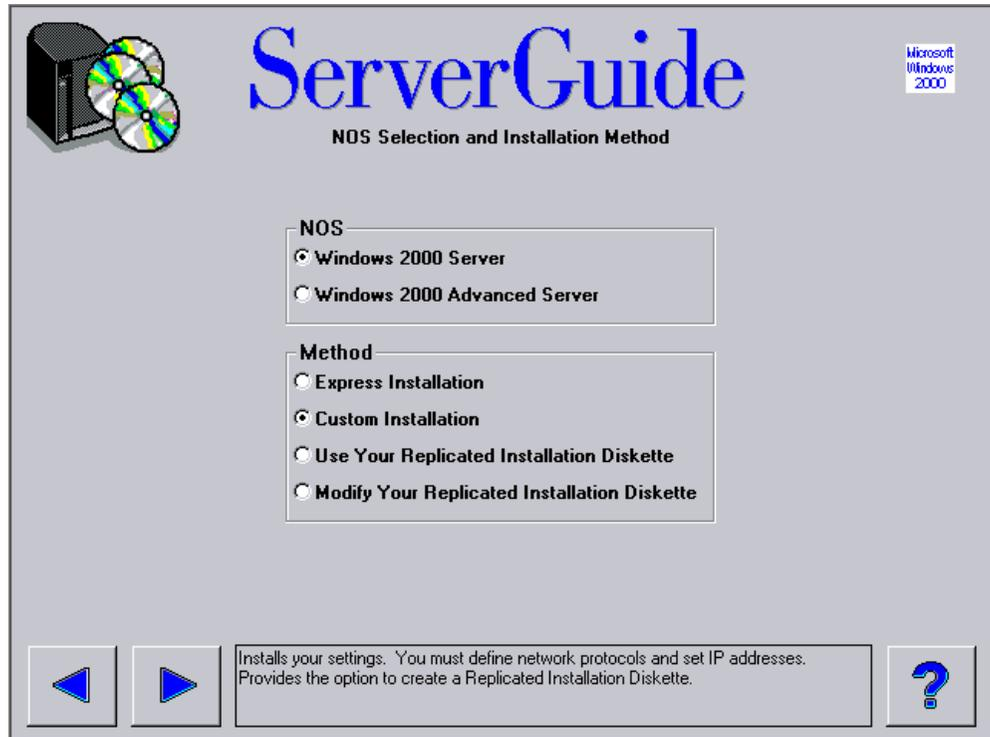

Figure 38. NOS selection and installation method
15. Once the server reboots, you will see a window similar to Figure 38.